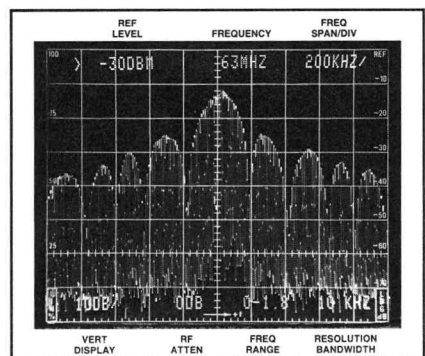

Figure 31. FM'ing carrier.
4. If the carrier is FM'ing, the lobes could be unsymmetrical (see Fig. 31).